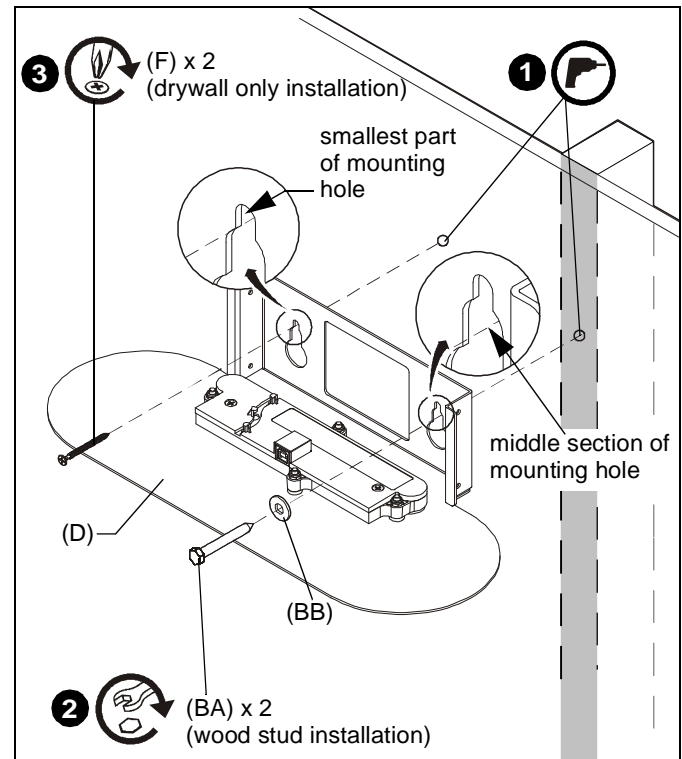

Figure 2
1. Drill two 7/32" holes at marked locations in wall. (See Figure 2)
2. Install two 5/16 x 2-1/2" hex head lag screws (BA) through two 5/16" washers (BB), middle section of mounting holes in sensor assembly (D) and into drilled holes. (See Figure 2)
3. Install two 08 x 2" Phillips head screws (F) through smallest part of mounting holes in sensor assembly (D) and into drywall. (See Figure 2)